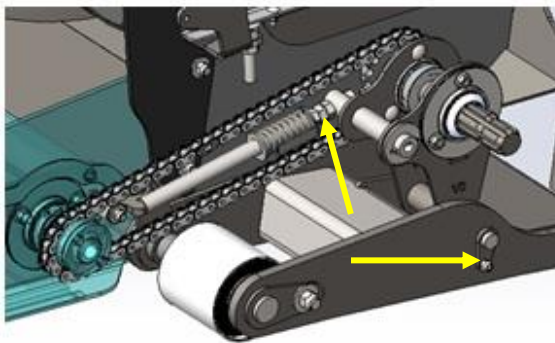

Figure 78
1. Loosen the jam nut on the spring tension. Figure 78
4. To remove the idler assembly, remove the bolt that secures the lower pivot pin in the idler assembly. Figure 78